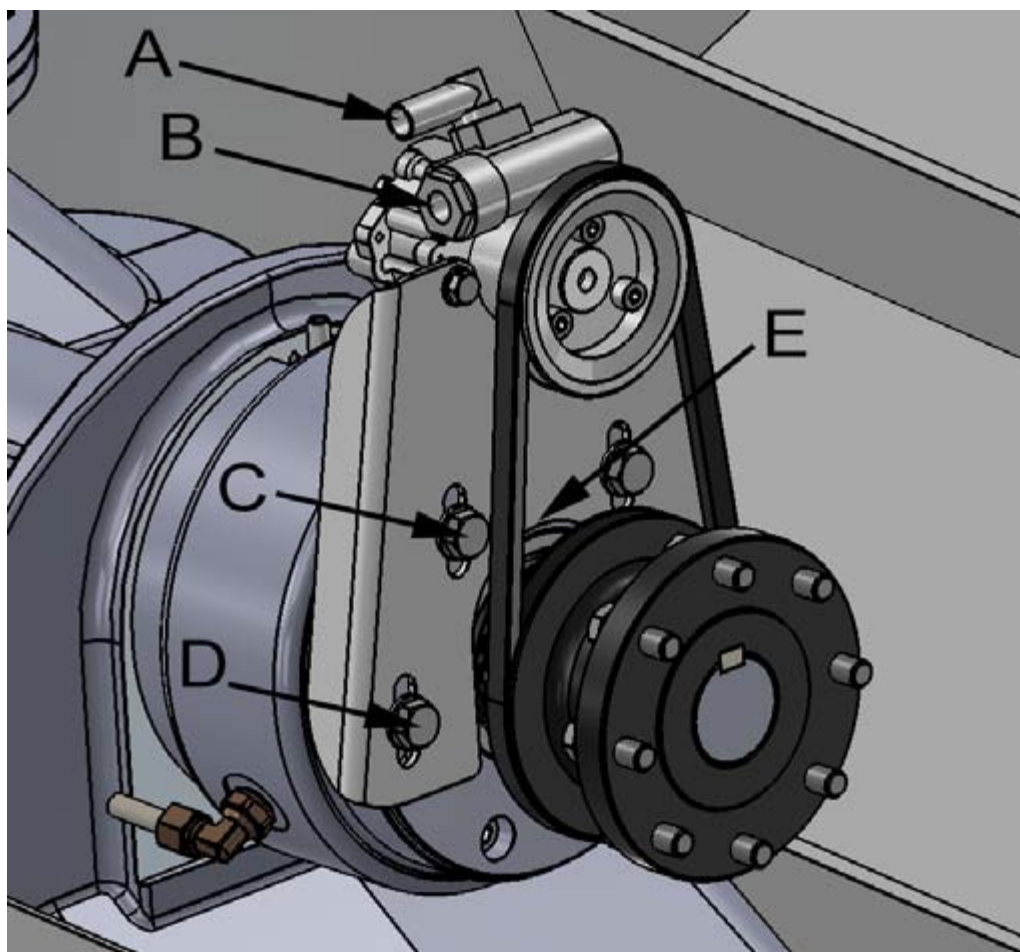
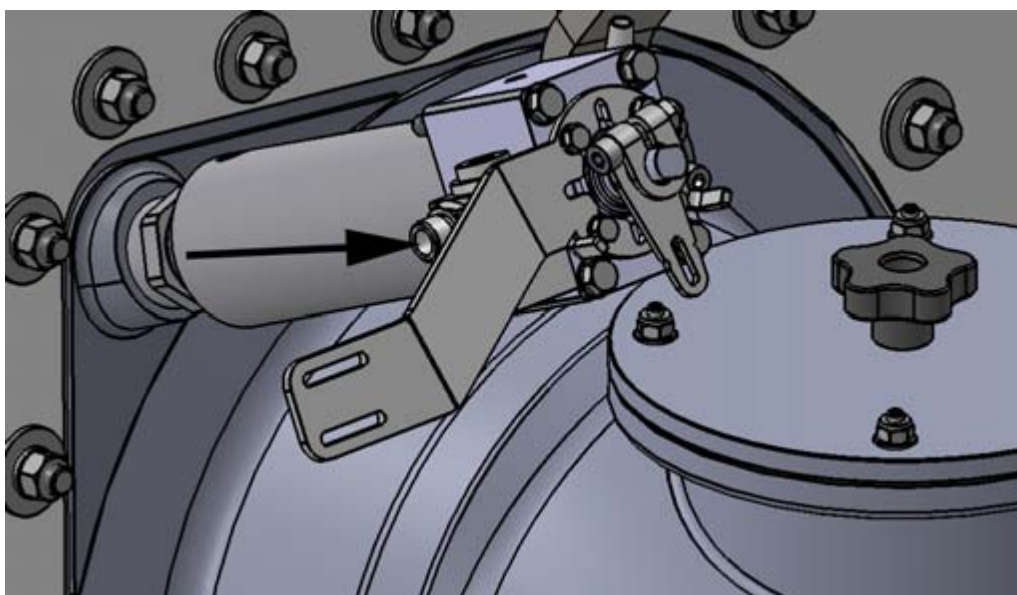

Figure 25. Attaching the hydraulic pump
Figure 26. Pressure hose connector in the hydraulic cylinder
Leave the screws slightly loose. There are a total of four screws, two on both sides (figure 25, points C and D).
3. Lift the rack by cranking it from point E indicated in figure 25 .
5. Attach the pressure hose to the connectors (figure 25, point B and figure 26).
6. Attach the oil reservoir hose to connector A (figure 25).